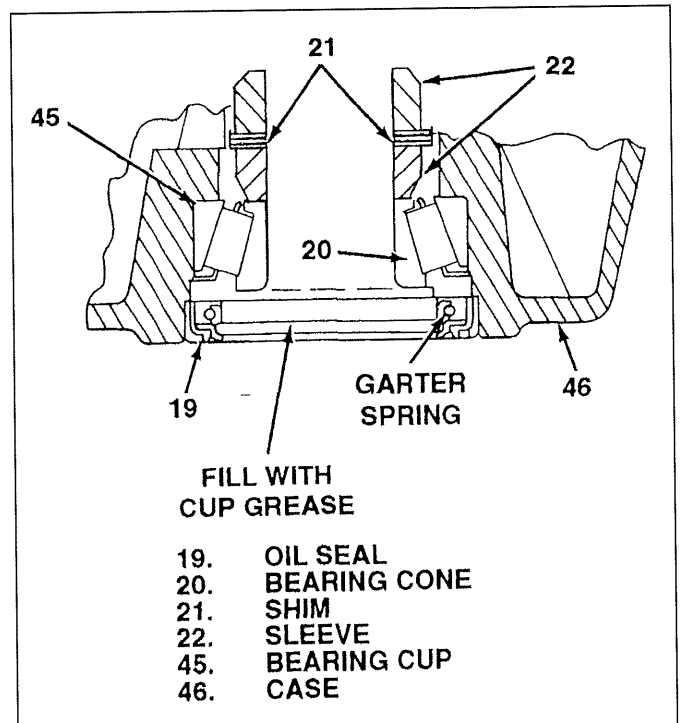

Figure 5-17: Placement of Sleeves and Shims for Assembly
3. Check to make sure the garter spring is correctly positioned on the output seal (19) (see figure 5-17).
Coat the large diameter of both sleeves (22) and shims (21) established in 5-18 step "h" with cup grease. Place sleeves (22) and shims (21) in case (46) cavity, resting on bearing cone (20) and seal (19) as illustrated in figure 5-17.